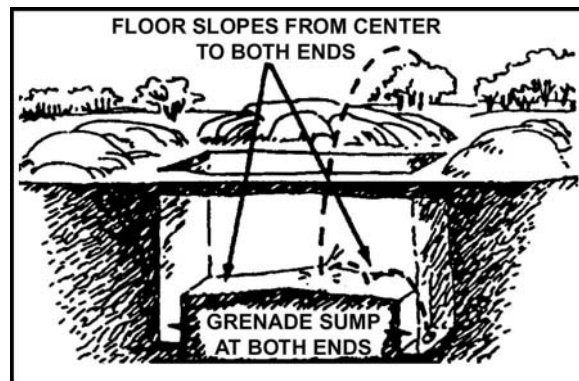

Figure 6. Two trench-shaped grenade sumps.
- (1) Carry it away from your position.
- (2) Camouflage excess dirt.
- i. Dig two trench-shaped grenade sumps (Figure 6).
- (1) Place one at each end of the position.
- (2) Make the trenches as wide as an entrenching tool blade, as deep as the entrenching tool, and as long as the position is wide.
- j. Slope the floor toward the sumps (Figure 6).